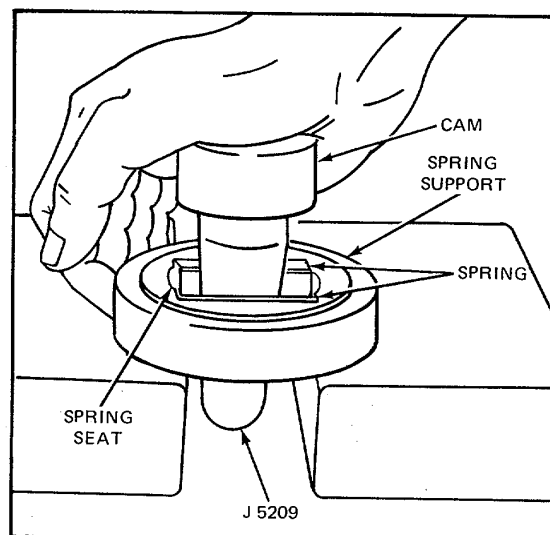

Figure 14. Inserting Cam in Blower Drive Support
- a. Place the drive spring support on two blocks of wood (Fig. 14).